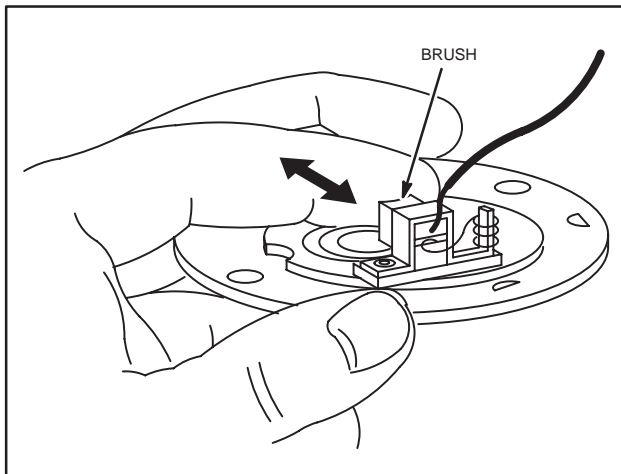

Fig. 672 – CHECK BRUSHES
9. The brushes should be checked for poor seating, weak brush springs, dirt, oil or corrosion, Fig. 672.